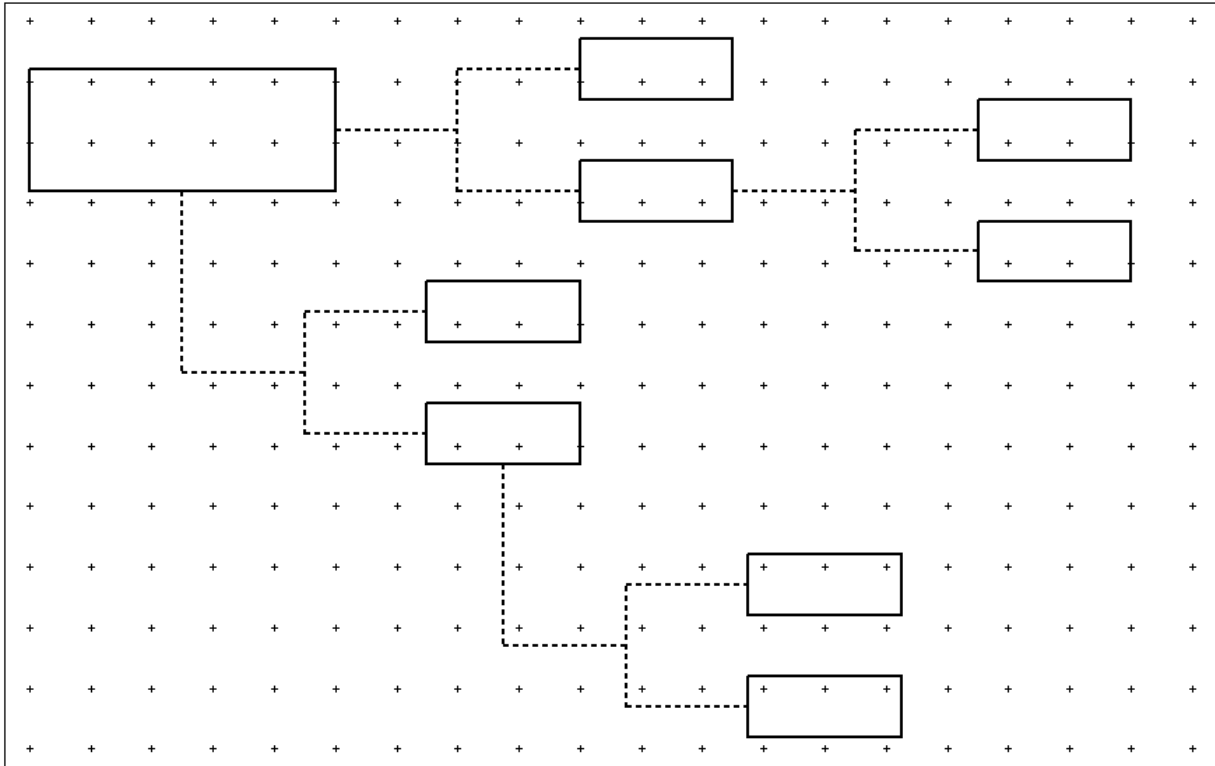

Figure 3-Lab 3
4. Draw figure 3-lab 3. Use PLACE BLOCK, PLACE LINE, and COPY ELEMENT commands. Use the PRIMARY TOOLS menu for different line style and weight. Make these whatever sizes you prefer.
5. **PARTIAL DELETE** the copied lines as shown in Figure 3-lab 6, then **EXTEND LINES TO INTERSECTION.**